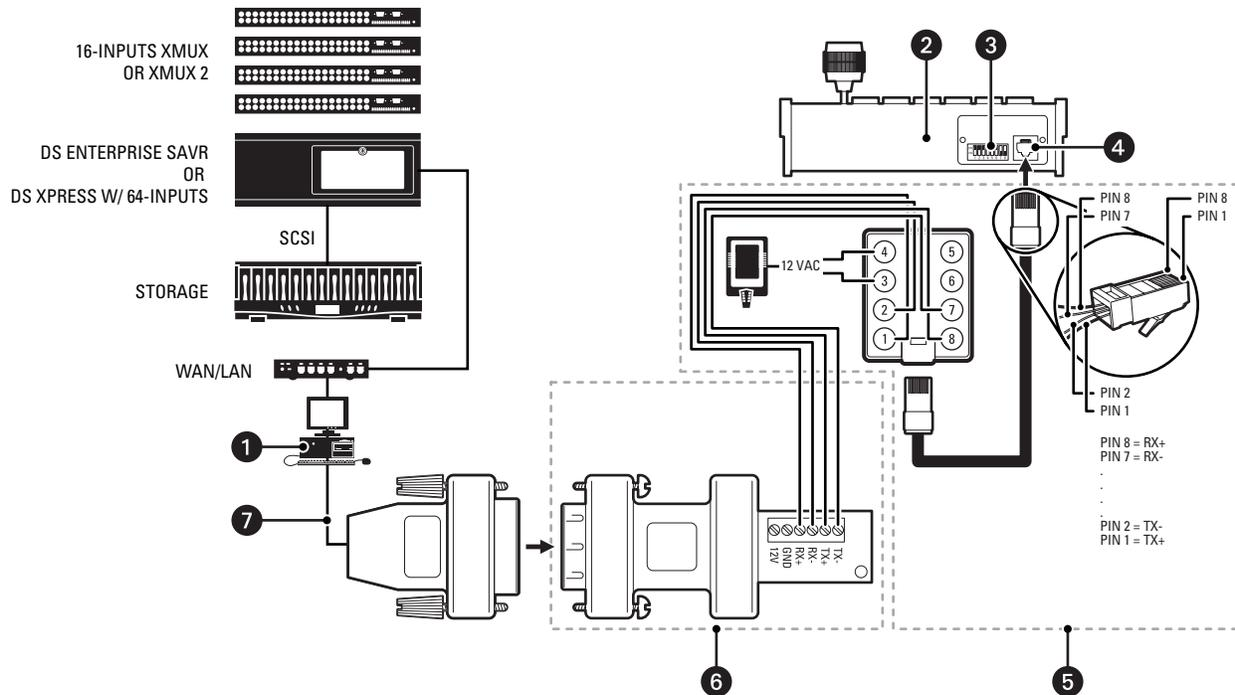

Figure 6. DS ControlPoint Wiring Diagram
Figure 6 shows how to connect the keyboard to the computer.
1. Attach the KBDKIT power supply to the RJ-45 wall block, but do not connect the power supply to a power source. Refer to Figure 1 on page 8 and Table A on page 9 for information about setting up the RJ-45 wall block for a DX4500/DX4600. Refer to Figure 6 on page 12 and Table D on page 13 for more information about setting up the RJ-45 wall block for DS ControlPoint.
2. Wire the RX-, RX+, TX-, and TX+ terminals from the PV140 to the RJ-45 wall block using a user-supplied interconnect cable (shielded twisted pair). Refer to Figure 1 on page 8 and Table B on page 9 for correct wiring information for DX4500/DX4600. Refer to Figure 6 on page 12 and Table E on page 13 for correct wiring information for DS ControlPoint.